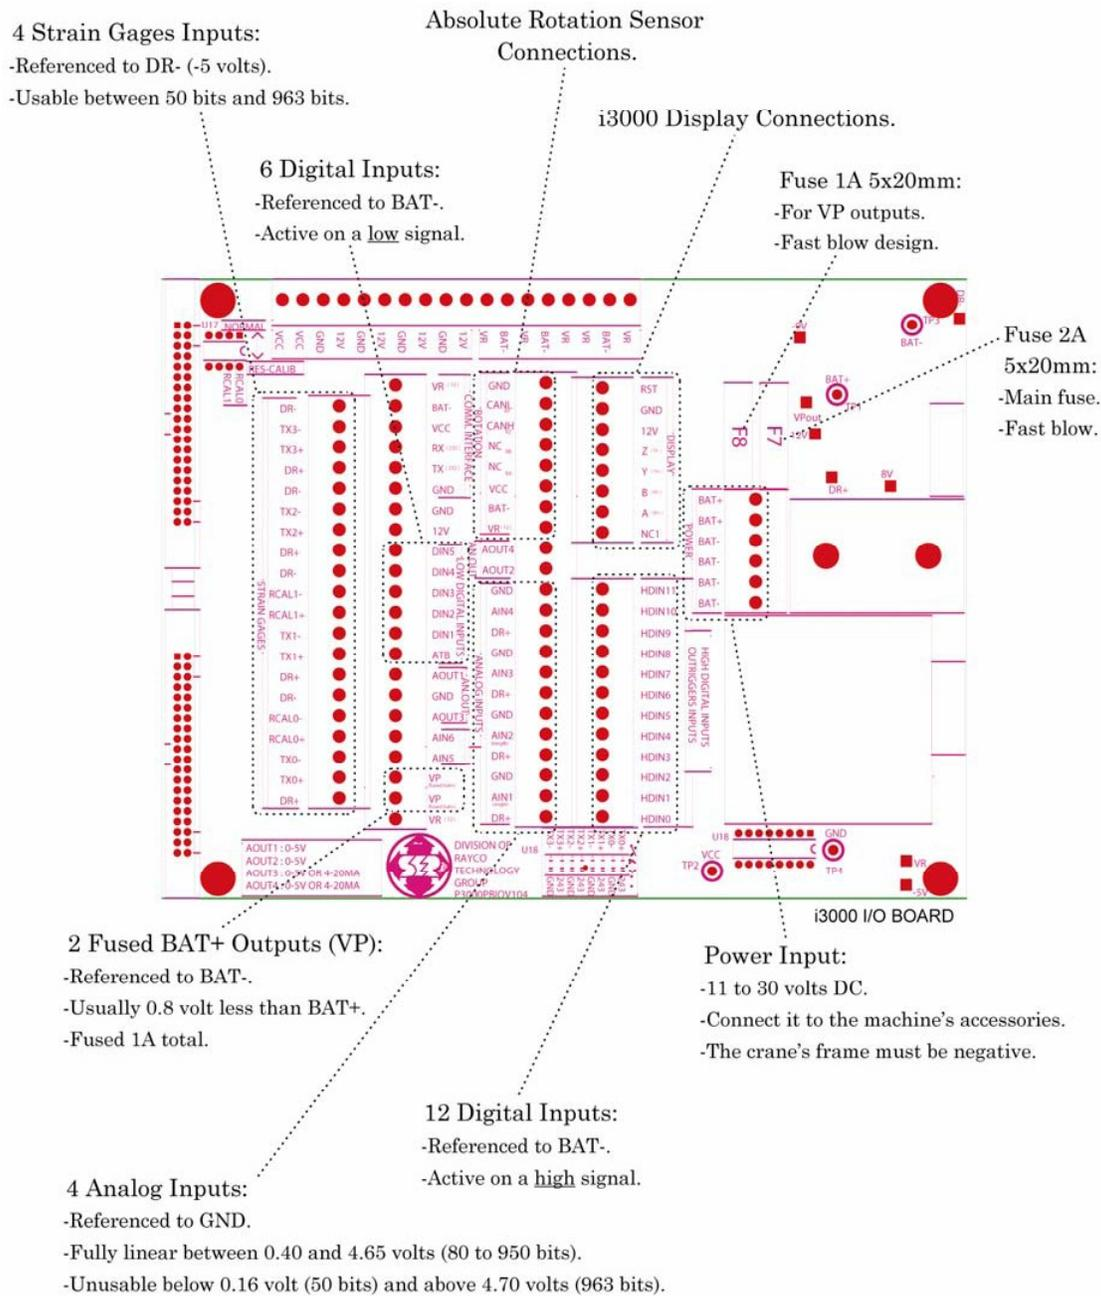

Figure 2.5: IO board and terminal blocks description
2. Loosen the 10 spring screws of the central processing panel, and carefully lift the panel out of the box to get access to the IO board. This panel is connected to the I/O board via two ribbon cables, these cables may be temporarily disconnected to improve access to the terminations below but take care to protect the loose assembly from damage. The IO board is described on figure 2.5.